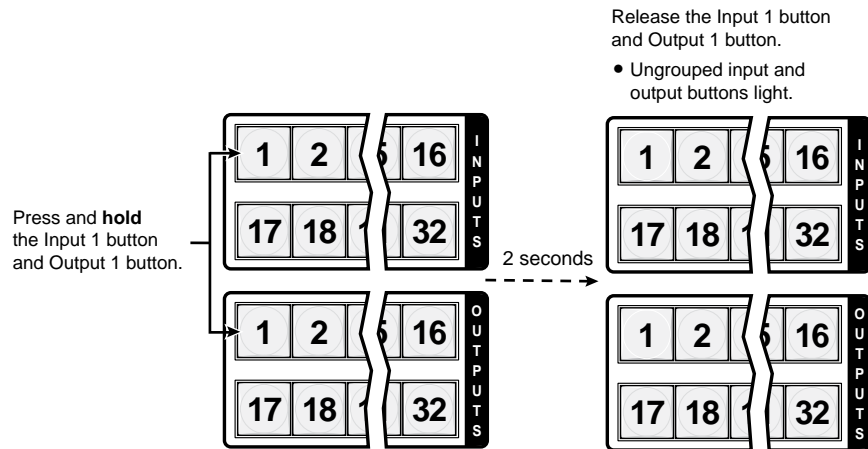

Figure 3-30 — Select I/O Group mode
2. To enter *I/O Group* mode, simultaneously press and **hold** the Input 1 and Output 1 buttons for approximately 2 seconds and then release the buttons (figure 3-30).